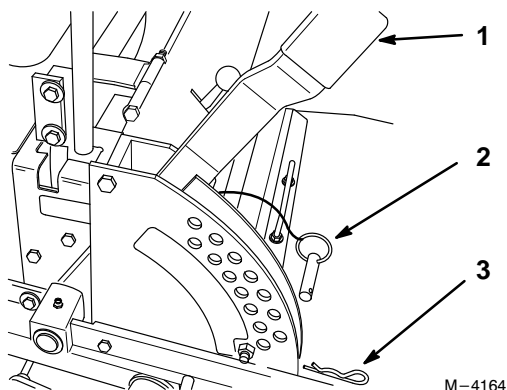

Figure 11
1. Raise the height-of-cut lever to the transport position (also the 5-1/2" (140 mm) cutting height position) (Fig. 11).
2. To adjust, remove hairpin cotter and clevis pin from height-of-cut bracket (Fig. 11).
3. Select hole in height-of-cut bracket corresponding to the height-of-cut desired. Lift handle to transport position, insert clevis pin (Fig. 11).
4. Secure clevis pin with hairpin cotter (Fig. 11).